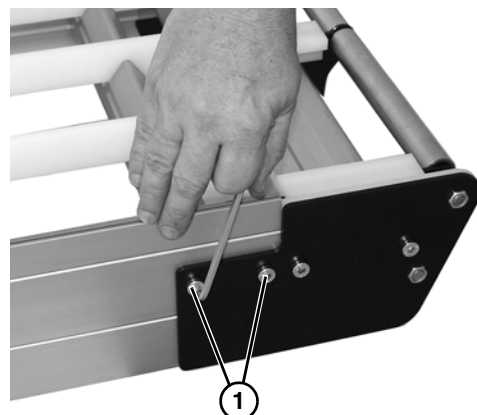

Figure 63
2. On one side of conveyor, remove the two socket head screws (**Figure 63, item 1**). Repeat on opposite side.